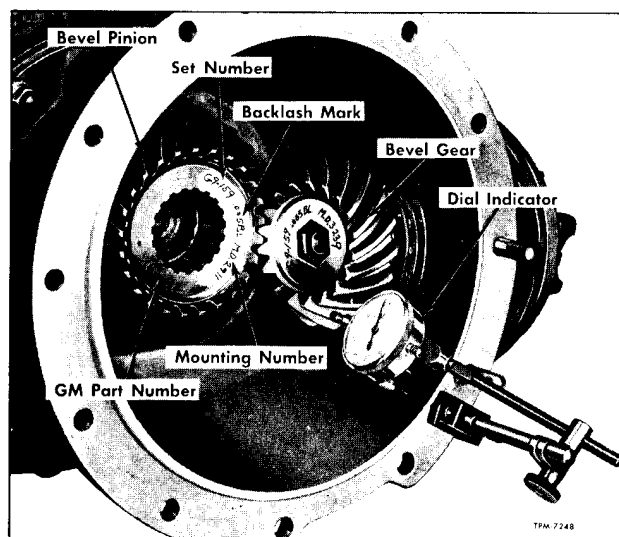

Figure 76—Checking Bevel Gear Backlash
Backlash dimension is etched on pinion and bevel gear as shown in figure 76.
2. Check gear backlash using dial indicator positioned as shown in figure 76. Dimension should be same as etched on gears. Adjustment can be accomplished through shims (5 and 19) provided between bevel gear bearing retainer (4) and accessory drive housing (20), and between bevel pinion bearing retainer (21) and accessory drive housing (20). Shims are of 0.003", 0.010" and 0.031" thickness.